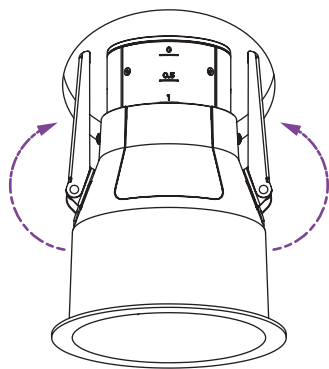

fig. 13
2. Fold the mounting springs upward and slide the fixture into the hole in the ceiling. Once above the ceiling, the spring arms will pull the fixture the rest of the way to the ceiling surface (see fig. 13).